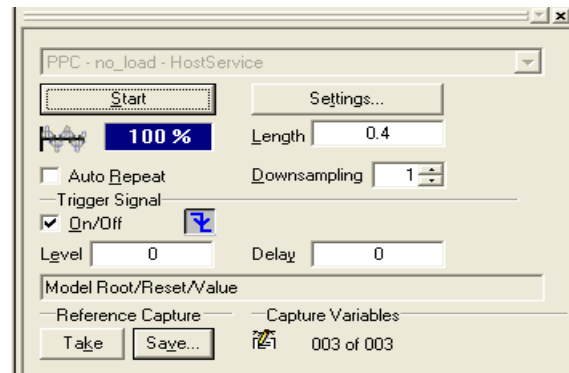

Figure 3.7: Capture setting window
1. Open View Control bars/Capture Setting Window. Change the setting in the capture setting window as shown in Fig 3.7. Drag the reset signal from the model root values into the grey box situated below the level-delay set boxes. Check the box called ON/OFF, check the edge direction, and then set the level value to 0.5. Also set the length to 0.4.